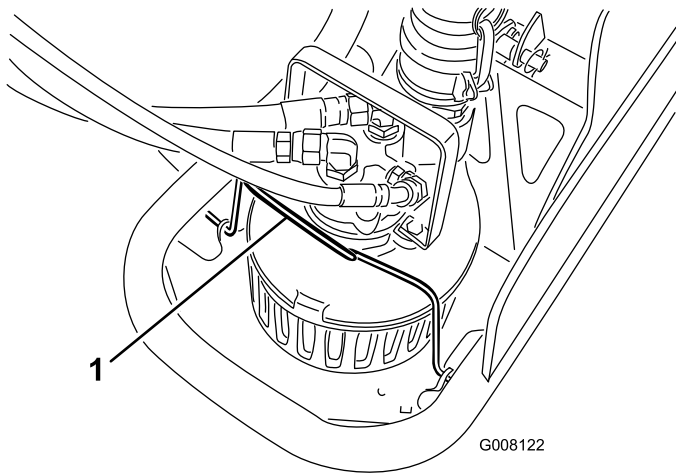
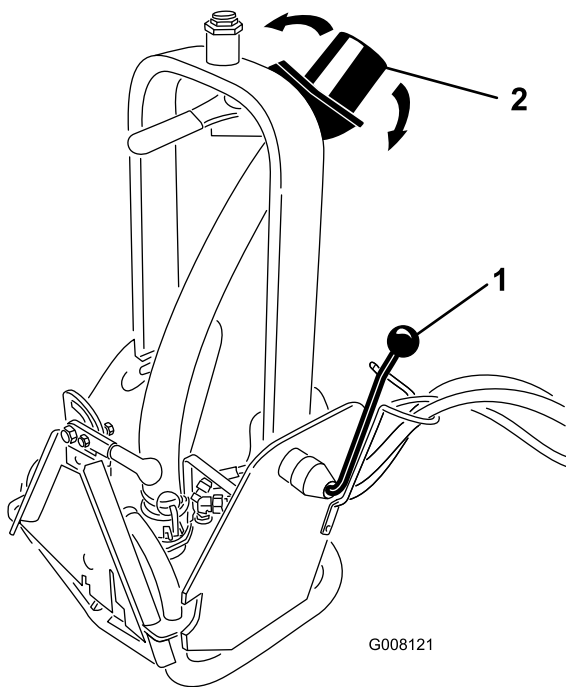

Figure 9
Figure 10
2. Make sure the pump clamp (Figure 9) and the lockup handle (Figure 10) are secure before commencing operation.